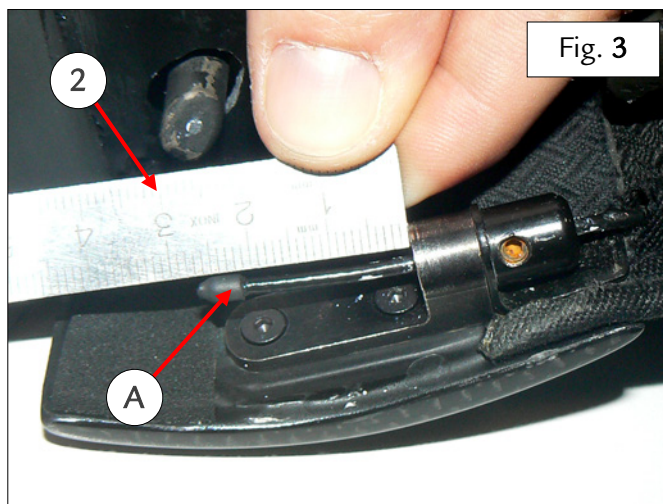

Fig. 2
- Lay the soft top out on a flat, clean surface with the inner side facing upwards – Fig. 2.
- Identify the cable adjustment area on the front edge of the driver side of the soft top – Fig. 2.